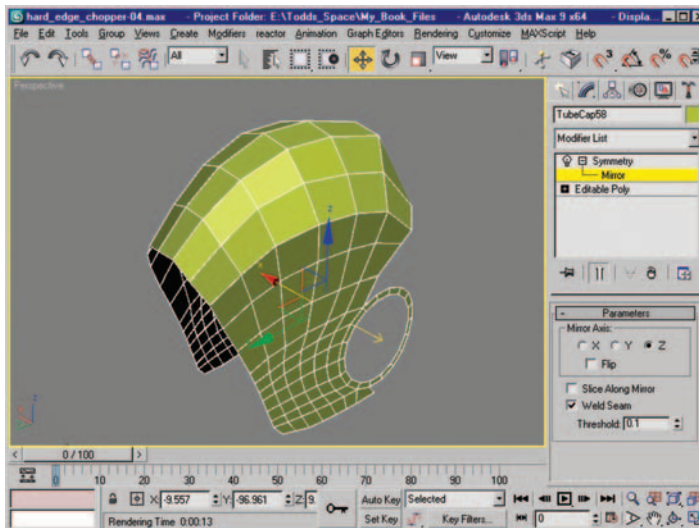

Figure 8.22 Mesh after adjusting the mirror axis of the Symmetry modifier.
25. Click the word “Symmetry” in the modifier stack (it will turn yellow), and adjust the position of the mirror axis in the viewport so that your mesh appears as it does in Figure 8.22.